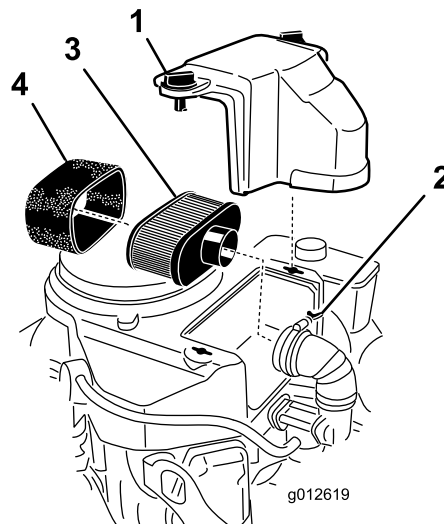

Figure 28
3. Clean the area around the air cleaner to prevent dirt from entering the engine and causing damage (Figure 28).
4. Unscrew the cover knobs and remove the air-cleaner cover (Figure 28).
5. Unscrew the hose clamp and remove the air-cleaner assembly (Figure 28).
6. Carefully pull the foam element off the paper element (Figure 28).
Important: Do not clean the paper filter, replace it (Figure 28).
1. Carefully slide the foam element on to the paper air-cleaner element (Figure 28).
2. Place the air-cleaner assembly onto the air cleaner base and secure it with the 2 wing nuts (Figure 28).
3. Place the air-cleaner cover into position and tighten the cover knob (Figure 28).